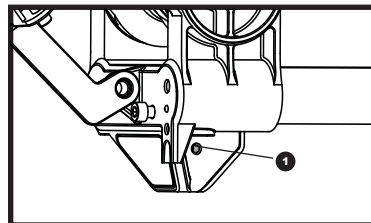

Fig 25
- 1) Loosen the single screw on the RH side of the laser housing $\frac{1}{4}$ a turn (see fig. 25)